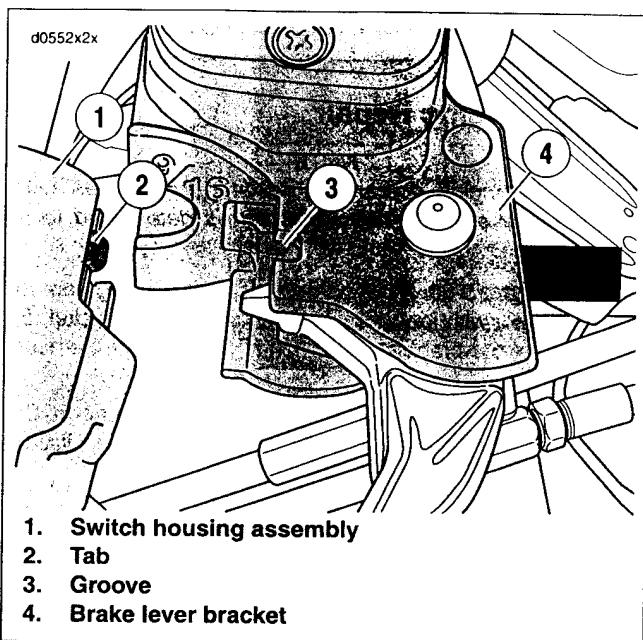

Figure 8-78. Switch Housing Alignment
- See Figure 8-78. Position the brake lever/master cylinder assembly inboard of the switch housing assembly, engaging the tab (2) on the lower switch housing in the groove (3) at the top of the brake lever bracket.